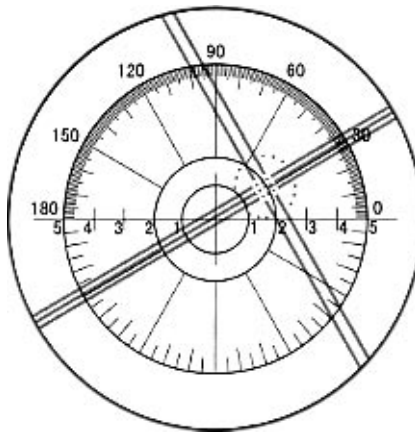

Fig. 17 (2Δ basal angle 30°)
- C. Prism degree and value of basal angle of prism lens are read on the eyepiece dividing plate (Fig. 17).